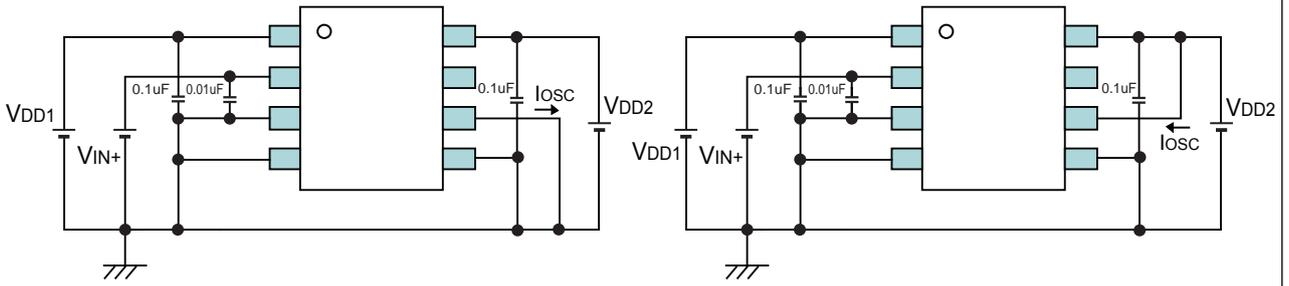

Fig.6 CMR Test Circuit
*2 Common Mode Transient Immunity (CMR) is specified by the rate of rise / fall of a pulse applied between GND1 on the input side and GND2 on the output side (pins 4 and 5) by using the circuit shown in Fig. 6 CMR Test Circuit. CMR is defined at the point that clock signals are corrupted.